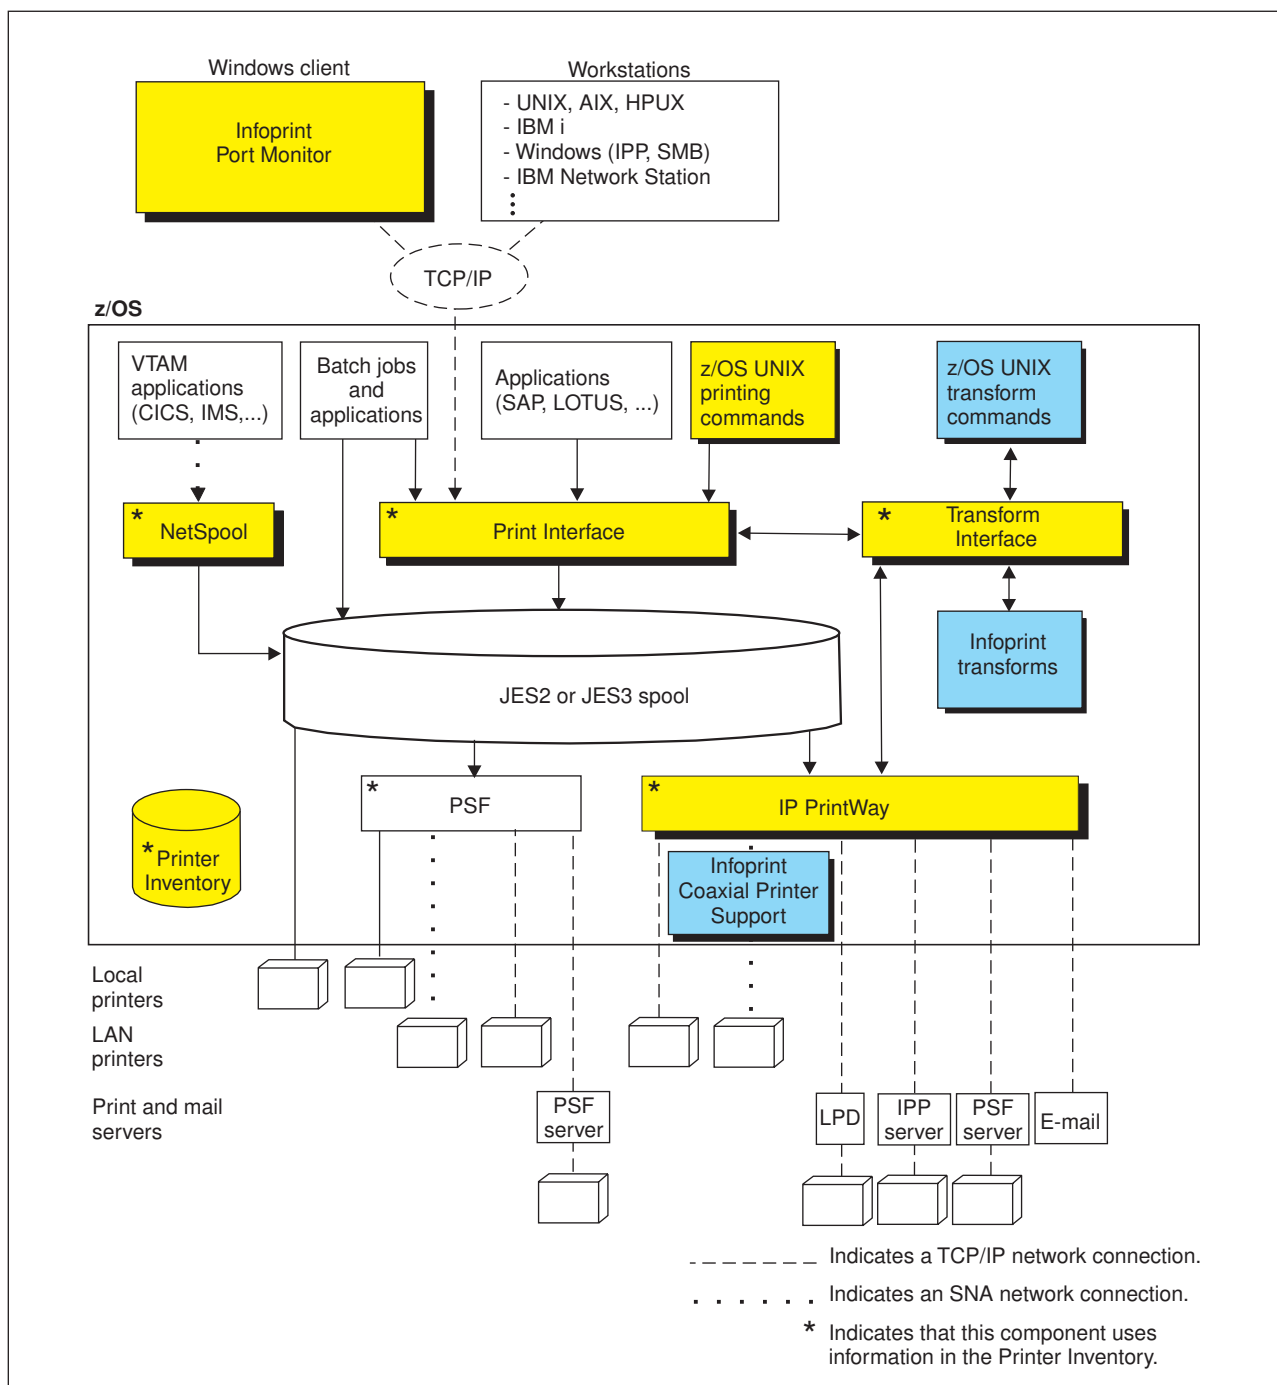

Figure 1. Infoprint Server system diagram
- The Infoprint Server components that are listed after Figure 1 on page 2
Figure 1 on page 2 shows how most of the components of Infoprint Server fit into your system. The components of Infoprint Server and the transform products are shaded. Components of Infoprint Server are displayed in yellow, while transform products are displayed in blue. Following the figure is a description of each component.